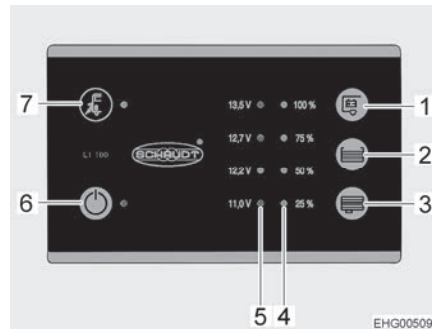

Fig. 100 Panel (LT 100)
The yellow LED at the mains connection symbol "⚡" (Fig. 100,7) is lit when the vehicle is connected to an external mains supply. In this case, the LED will also be lit when the panel is switched off.
- ▷ For safety reasons, the 12 V main switch (Fig. 100,6) cannot be switched on while the vehicle engine is running. This means that the panel cannot be operated during the journey.
The 12 V main switch (Fig. 100,6) switches the panel and the 12 V power supply of the living area on and off.
- Press switch "⏻" (Fig. 100,6): The 12 V living area power supply is switched on. The LED lights up green.
- Press switch "⏻" (Fig. 100,6) again: The 12 V living area power supply is switched off. The LED goes out.
The LED array (Fig. 100,5) displays the battery voltage of the living area battery as follows:
- Press the button " " (Fig. 100,1): The battery voltage of the living area battery is displayed.
The LED array (Fig. 100,4) displays the fill level of the fresh water tank or of the waste water tank.
Press the button "☰" (Fig. 100,2): The fill level of the fresh water tank is displayed by lit LEDs.
Press the button "☷" (Fig. 100,3): The fill level of the waste water tank is displayed by lit LEDs.